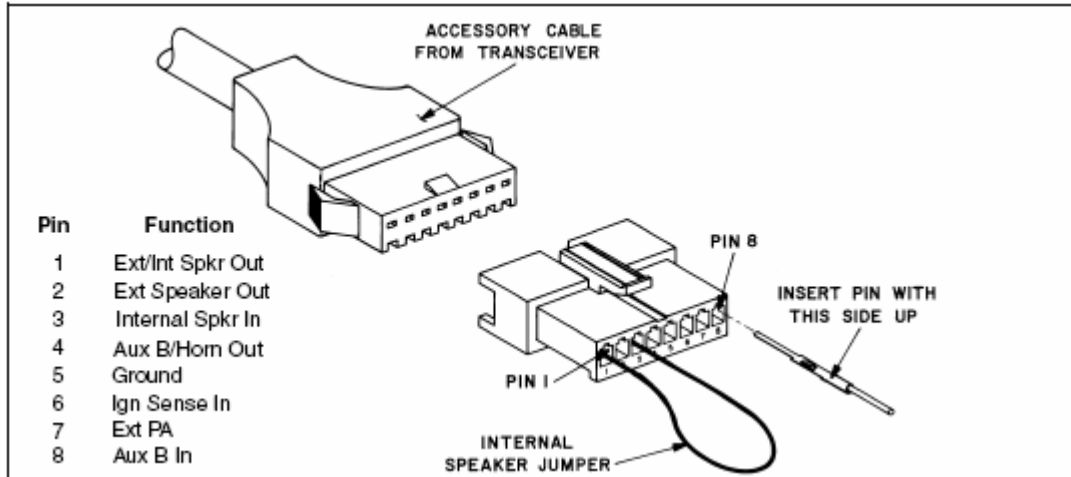

Figure 2-5 Accessory Jack
Two 8-pin connectors are included in this kit. One has a jumper installed from Pin 1 to 3 for routing audio back into the internal speaker (see Section 2.7) and the other does not have any wires installed. Also included are two 22-foot (6-meter) and three 2-foot (0.6-meter) wires with attached pins that can be used as required. Refer to Figure 2-5 and install this cable as described in the following information.
The Auxiliary B output is connected using one of the wires included in the accessory wire kit. Insert the pin of the wire assembly into the Pin 4 slot of the connector as shown in Figure 2-5. Then connect the other end to the external device.
Front Mount Transceiver - Insert the plug with the jumper from Pin 1 to 3 into the accessory jack (see Figure 2-5). This routes the audio on Pin 1 back in to the internal speaker connected to Pin 3. The other internal speaker terminal is internally connected to Pin 2.
1. The external speaker is connected to Pins 1 and 2 of the accessory connector shown in Figure 2-5 (the order is not important). If installing the -006 speaker, pins are already installed on the speaker wires. Locate the connector included in the accessory wire kit that does not have pins 1 and 3 jumpered and insert one pin into the Pin 1 location and the other into the Pin 2 location.